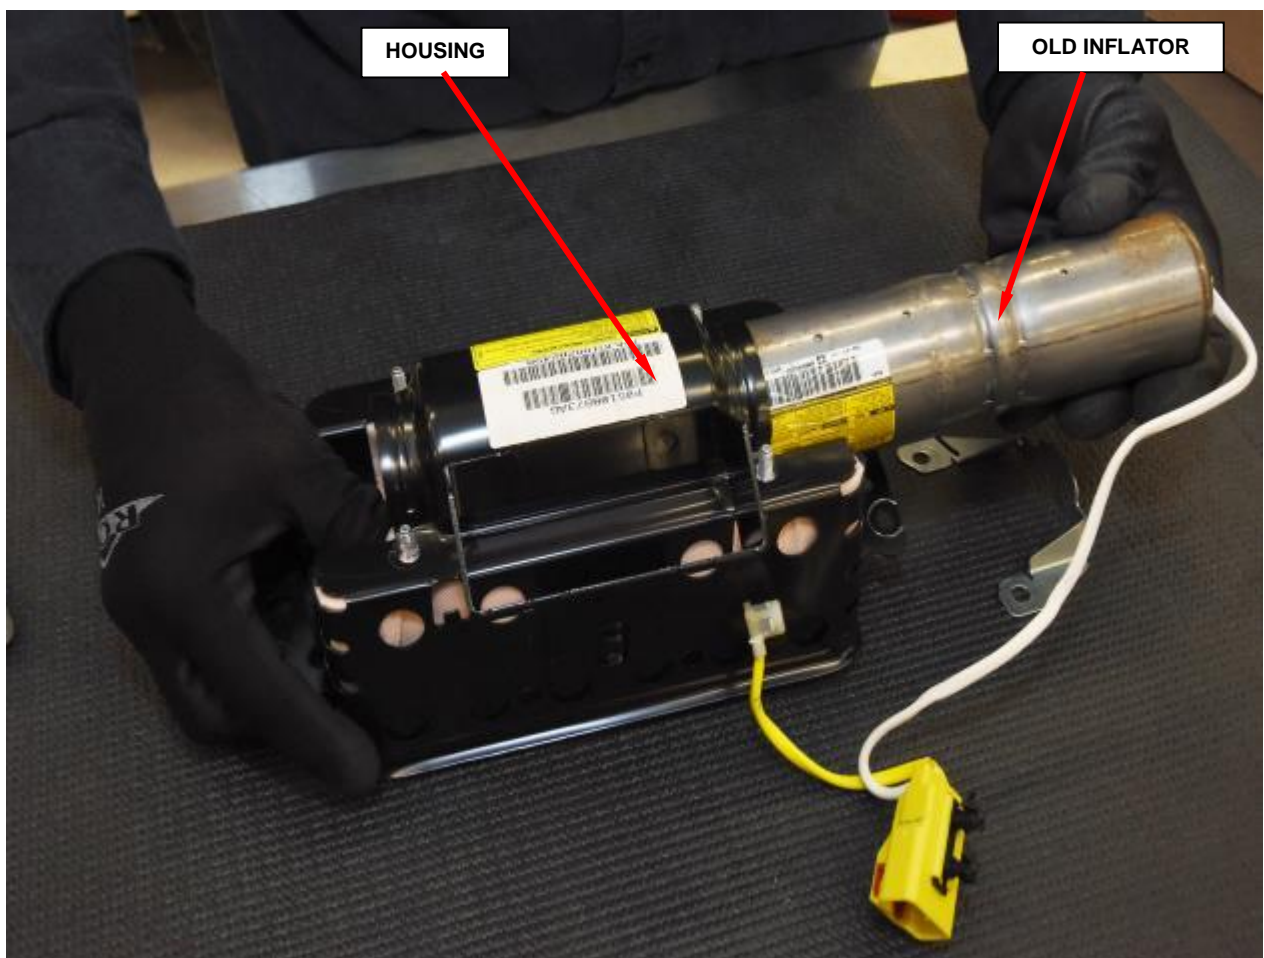

Figure 57 – Passenger Airbag Inflator Removal
- g. Slide the inflator out of the housing (Figure 57).